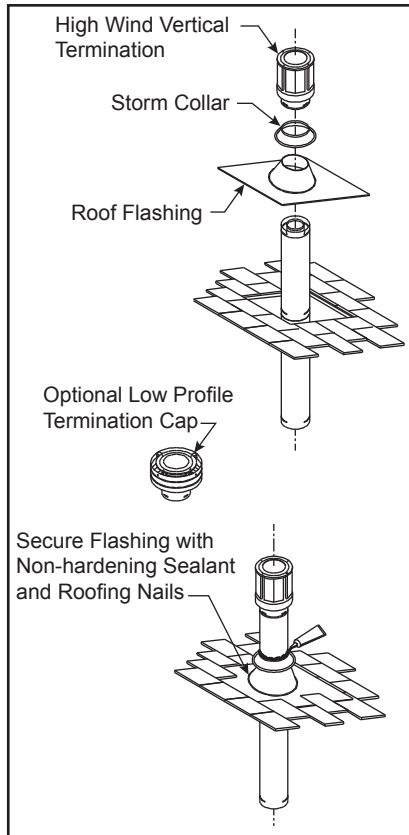

Figure 36
Ensure the roofing material overlaps the top edge of the roof flashing, Figure 36. Verify that you have at least the minimum clearances to combustibles at the roofline and in the attic.
**Step 9** - Slip the storm collar over the pipe section, and push it down to the top of the roof flashing, Figure 36. Use non-hardening sealant between the storm collar and the pipe section